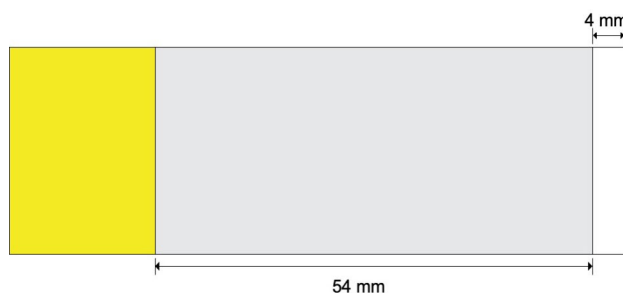

Figure 2.6. Approximate accessible imaging area (in gray) for Phenolmager Slide Carrier. The small square on the left (in yellow) indicates the slide label.
- The area of the slide that is accessible for scanning is shown for the Phenolmager Slide Carrier in Figure 2.6 (in gray) and for the PhenoCycler Flow Cell Slide Carrier in Figure 2.7 (in gray).